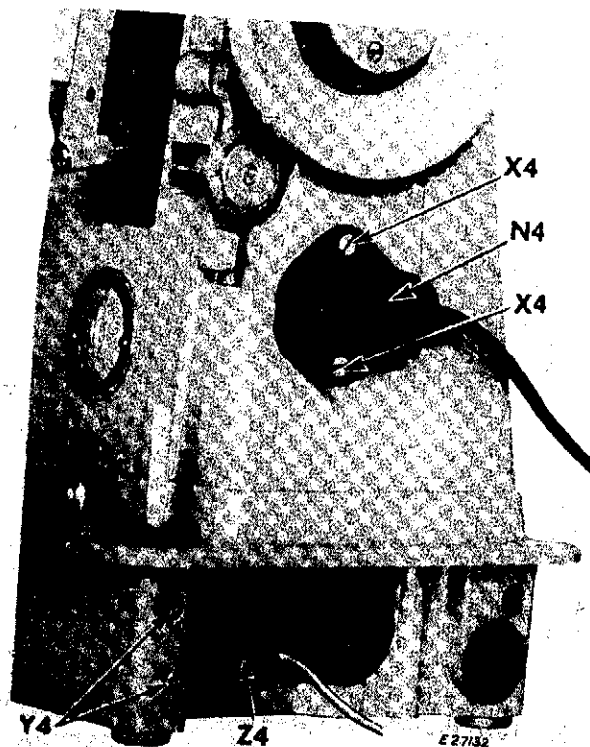

Fig. 305. Terminal Blocks
1. Remove male-half of two-pin terminal **Z4**, Fig. 305.
2. Remove female-half of three-pin terminal **N4**, Fig. 305.
5. Remove two screws **X4**, Fig. 305.
6. Loosen two screws **Y4**, Fig. 305 and push female-half of two-pin terminal into recess beneath bed of machine.
1. Install both terminals with their wire leads in machine, as shown in Fig. 305.
2. Insert sewing light leads up through cavity provided for them in machine arm, as shown at **B5**, Fig. 305.
7. Replace female-half of three-pin terminal at **N4**, Fig. 305.
8. Replace male-half of two-pin terminal at **Z4**, Fig. 305.